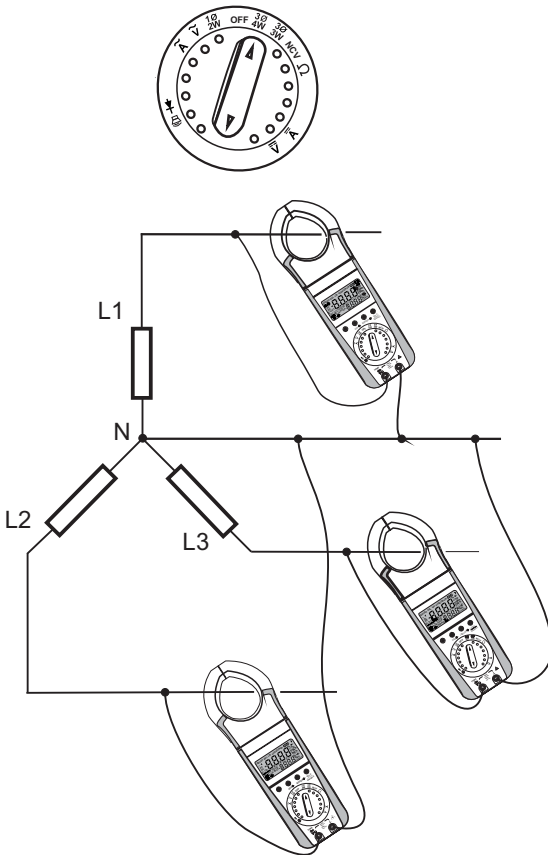

Fig 11.1.2 Connection diagram for 3ph4w unbalance load
- 2) Meter will show L1-n and I -1 on display . Connect meter to phase L1 as shown in fig 11.1.2 (step 1).